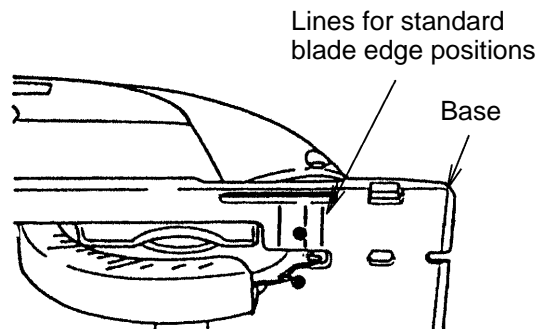

Fig. 5
- Three lines are marked on the bottom of the base. These lines indicate the standard blade edge positions and cutting depth according to thickness of workpieces. Viewing from the bottom (Fig. 5), the right perpendicular lines indicate the standard blade edge positions at the maximum cutting depth.